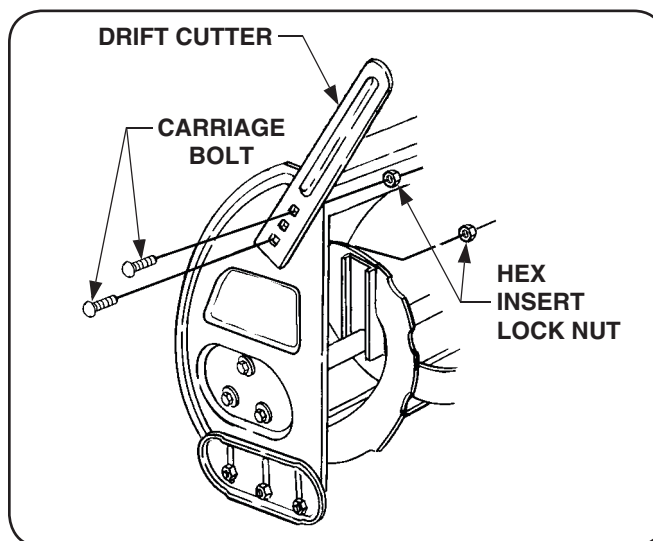

Figure 5-2
Drift cutters on both sides of the auger housing can be adjusted to the up position for a higher cut. Refer to Figure 5-2 and proceed as follows:
- b. Turn the drift cutters to the up position and secure with the carriage bolts and lock nuts as shown in Figure 5-2.